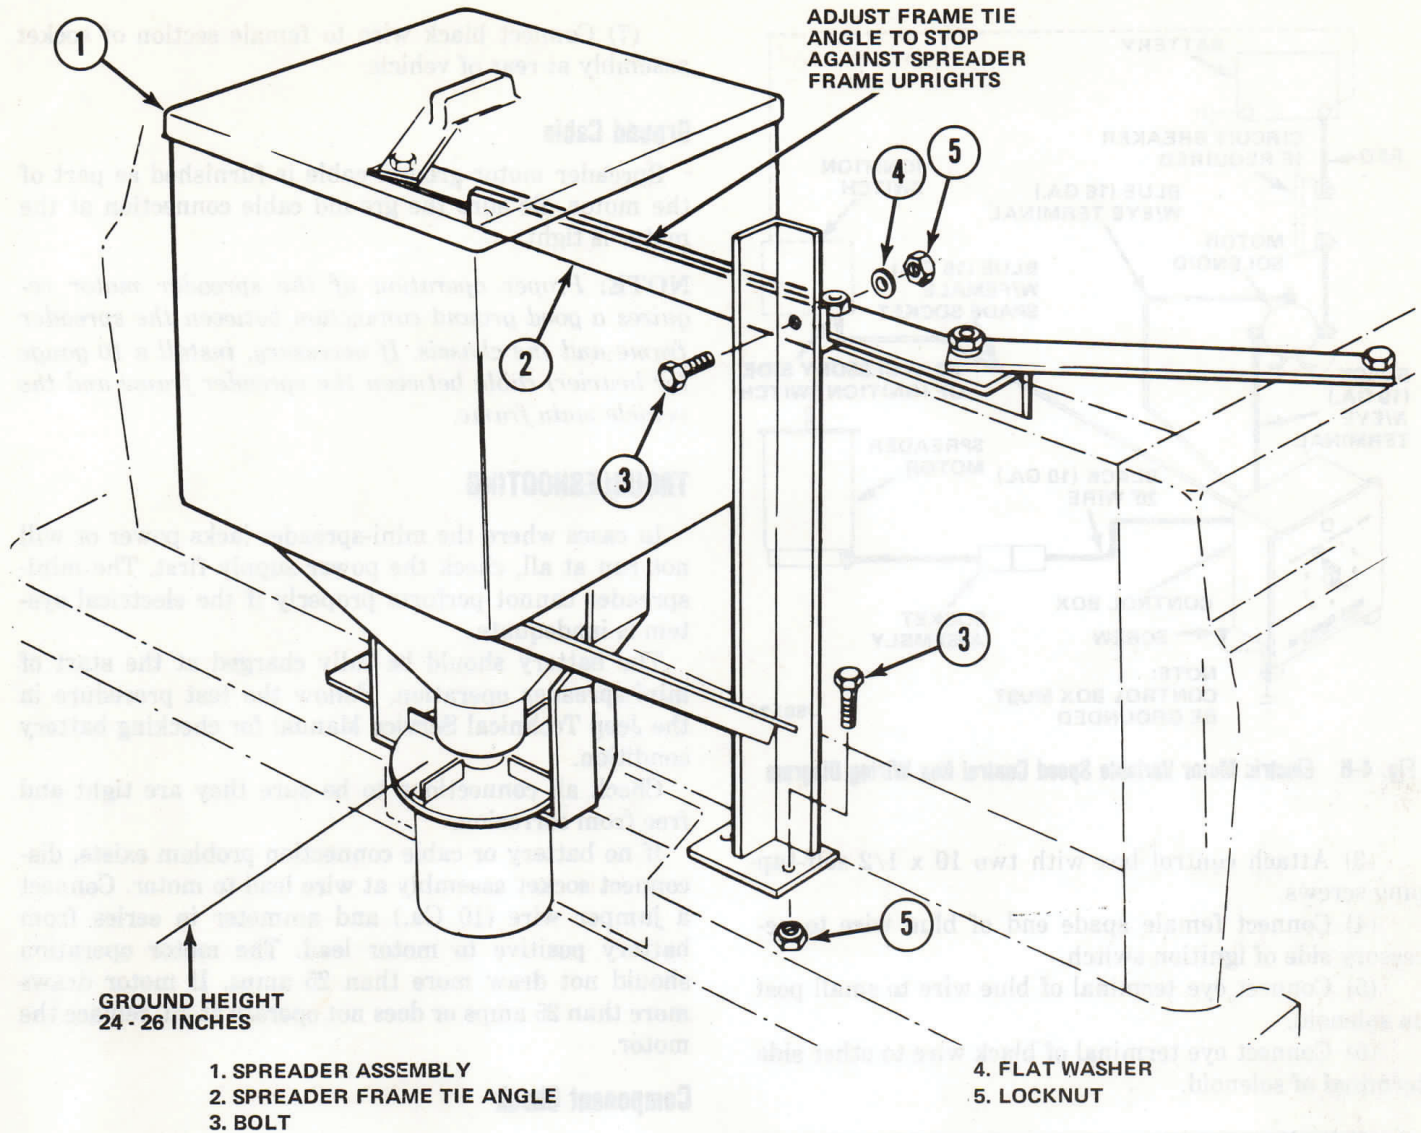

Fig. 4-4 Installation of Spreader and Spreader Frame
- (1) Position spreader assembly on step bumper or mounting angles and align spreader frame uprights with drilled holes in spreader frame tie angle (fig 4-4). Be sure that frame uprights are vertical and adjust tie angle to stop against spreader frame. Tighten nuts securely.
- (2) Using drilled holes in spreader frame tie angle as a template, drill a 7/16-inch hole in each spreader frame upright. Secure uprights to tie angle with 3/8 x 1 bolts, flat washers, and locknuts.
- (3) Using holes in feet of spreader frame uprights as a template, drill four 5/16-inch holes through rear step bumper or mounting angles (fig. 4-4). Secure uprights to bumper with 1/4 x 1 bolts and locknuts.
- (4) Tighten all nuts and bolts.